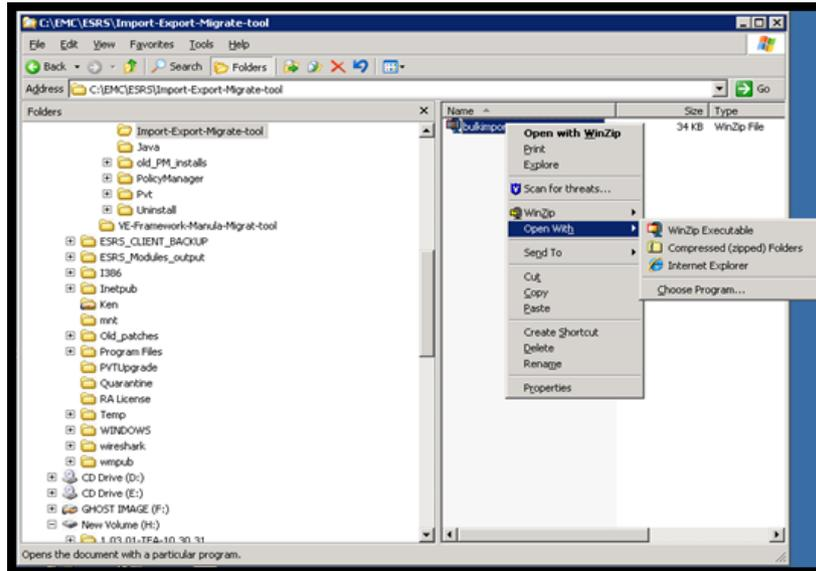

Figure 107 Uncompressing a file
- Copy the downloaded file to the directory and uncompress it, as shown in Figure 107 on page 96.